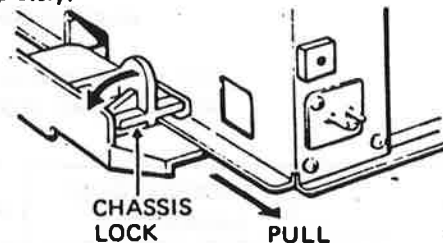

Figure 3 - CHASSIS REMOVAL
5. Refer to Figure 3. Push the chassis locks outward (a lock is provided on each side of the chassis bottom). Then pull out the chassis from cabinet, and remove chassis completely.